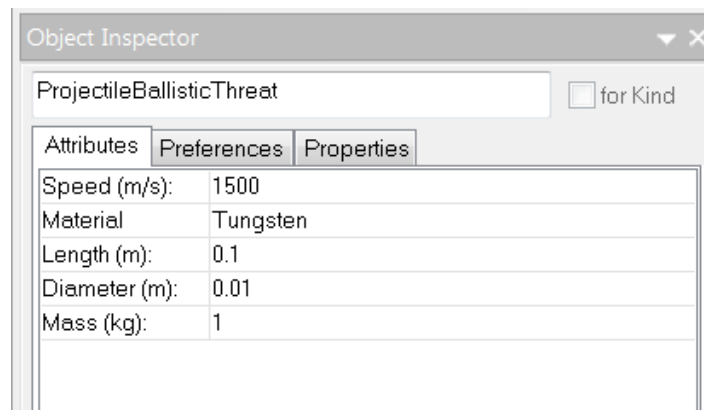

Figure 4: Object Inspector for ProjectileBallisticThreat
- Highlight the ProjectileBallisticThreat and fill out the information so that the fields under the Object Inspector match that of Figure 4.